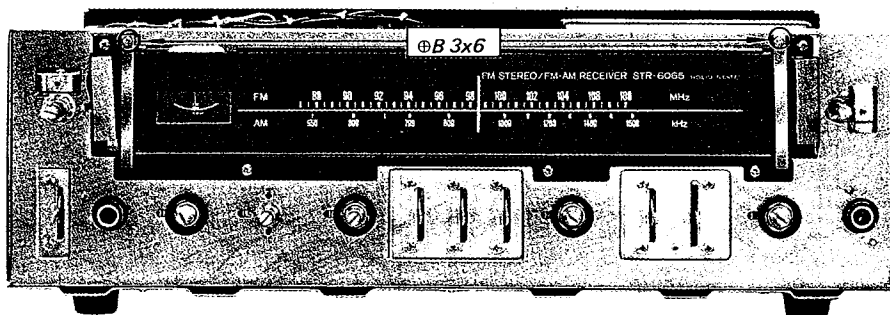

Fig. 2-12. Dial scale removal
3. Remove the two self-tapping screws ($\text{Ø} B 3 \times 6$) securing the dial-scale holder to the front sub-chassis as shown in Fig. 2-12.